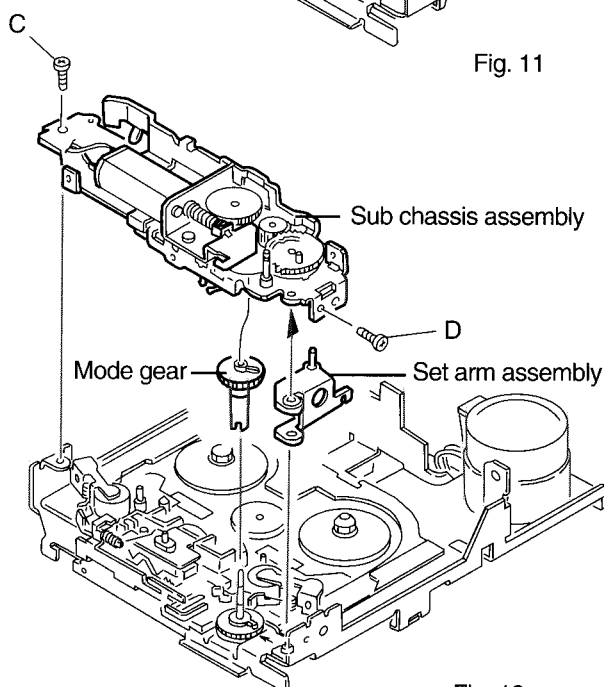

Fig. 12
■ Removing the Flywheel Assembly (See Fig. 12)
Note : The set arm assembly and the mode gear should be positioned as shown in Fig. 12.